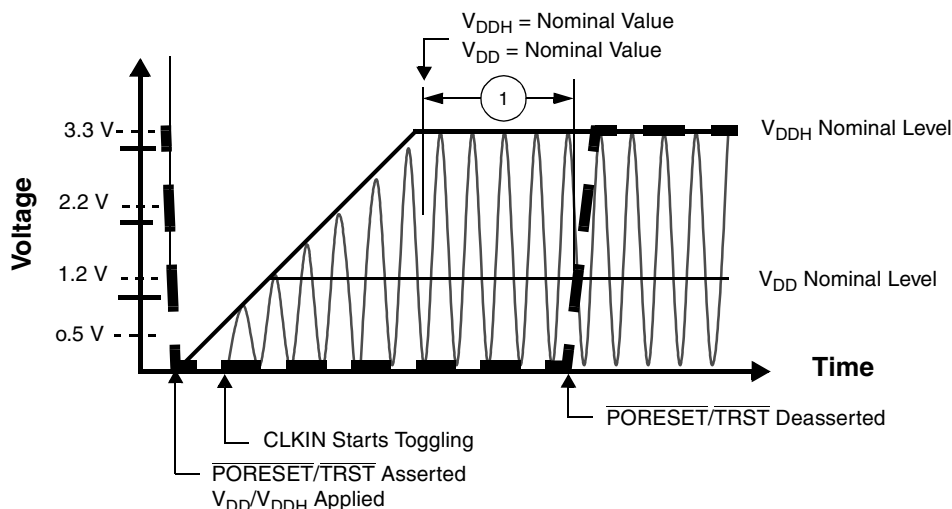
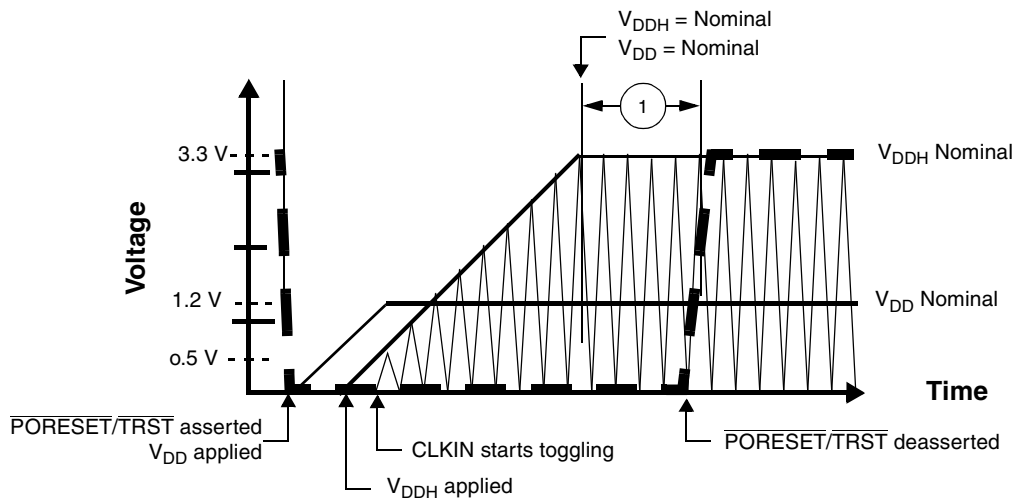

Figure 2-2. Start-Up Sequence with  $V_{\text{DD}}$  and  $V_{\text{DDH}}$  Raised Together
Figure 2-3. Start-Up Sequence with  $V_{DD}$  Raised Before  $V_{DDH}$  with CLKIN Started with  $V_{DDH}$
- If possible, bring up the  $V_{\text{DD}}$  and  $V_{\text{DDH}}$  levels together. For designs with separate power supplies, bring up the  $V_{\text{DD}}$  levels and then the  $V_{\text{DDH}}$  levels (see **Figure 2-3**).
- CLKIN should start toggling at least 16 cycles (starting after  $V_{\text{DDH}}$  reaches its nominal level) before  $\overline{\text{PORESET}}$  deassertion to guarantee correct device operation (see **Figure 2-2** and **Figure 2-3**).
The following figures show acceptable start-up sequence examples. **Figure 2-2** shows a sequence in which  $V_{\text{DD}}$  and  $V_{\text{DDH}}$  are raised together. **Figure 2-3** shows a sequence in which  $V_{\text{DDH}}$  is raised after  $V_{\text{DD}}$  and CLKIN begins to toggle as  $V_{\text{DDH}}$  rises.